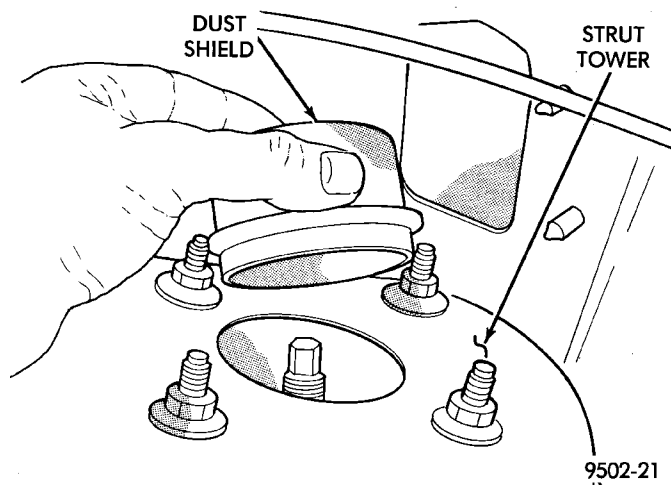

Fig. 6 Dust Shield Removal From Strut Tower
(6) Lower vehicle. Access to rear upper strut mount to strut tower attaching bolts, is through the trunk of the vehicle.
(7) Remove carpet (if required) from top of strut tower. Then remove rubber dust shield (Fig. 6) from top of strut tower, this will allow easier access to upper strut mount attaching nuts.
(2) Install dust shield into hole on top of strut tower (Fig. 6). Install carpeting back on top of rear strut tower.
(3) Raise vehicle.